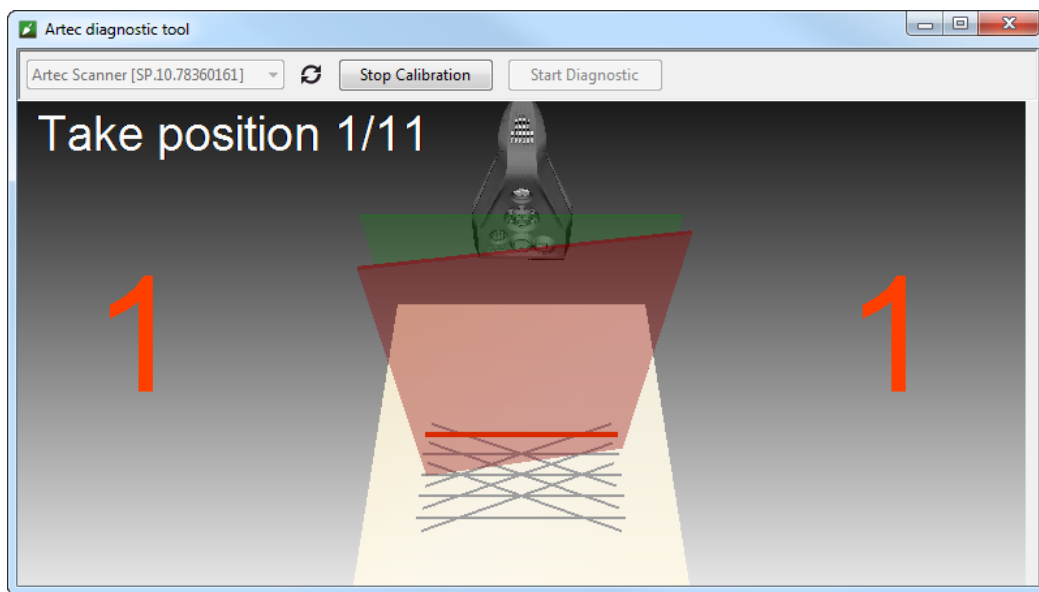

Figure 139: Moving calibration rig to position number 1.
7. Place the rig in its initial position such that the front edge of its base coincides with the color line numbered 1 on the pattern. As you do so, also keep an eye on the *3D View* window for a red plane (current position) and a green plane (target position)—see Figure 139. Once the red plane coincides with the green one, stop moving the rig and wait for the scanner to capture the plane.